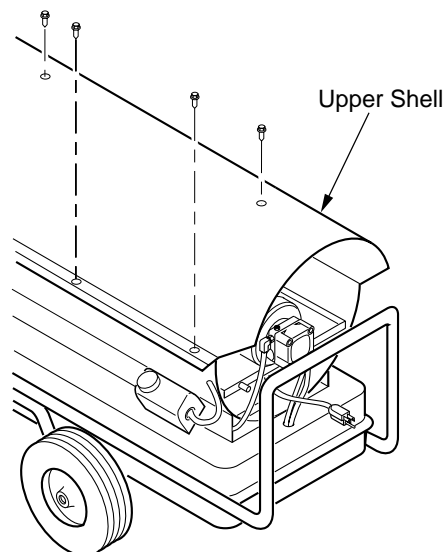

Figure 6 - Upper Shell Removal, 600,000 Btu/Hr Model
1. Remove screws along each side and top of heater using 5/16" nut-driver. These screws attach upper and lower shells together (see Figure 6).